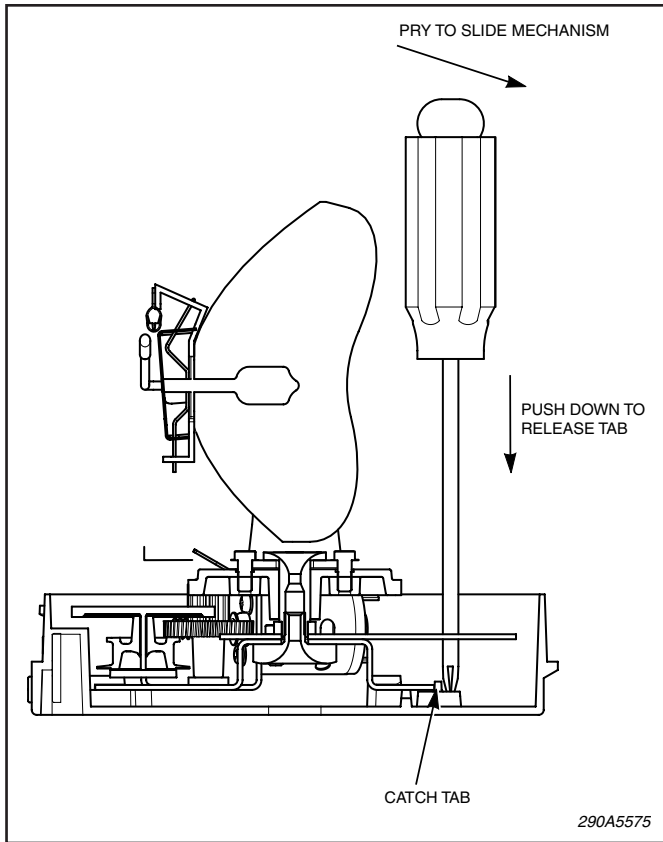

Figure 8.
C. Mechanism Removal for Servicing (see figure 8).